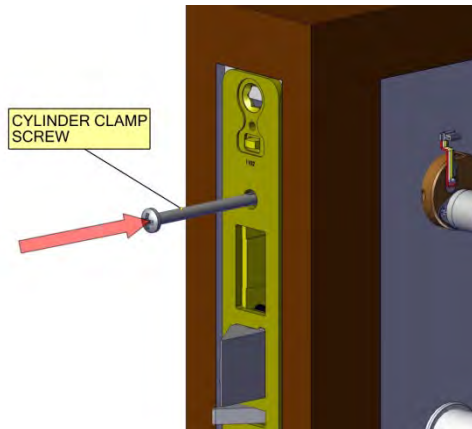

Fig. 7
**Step 3:** Re-tighten the cylinder clamp screw with the M100 in a vertical position. The screw should engage tightly in the slot along the edge of the cylinder so the cylinder cannot rotate (Fig. 7).